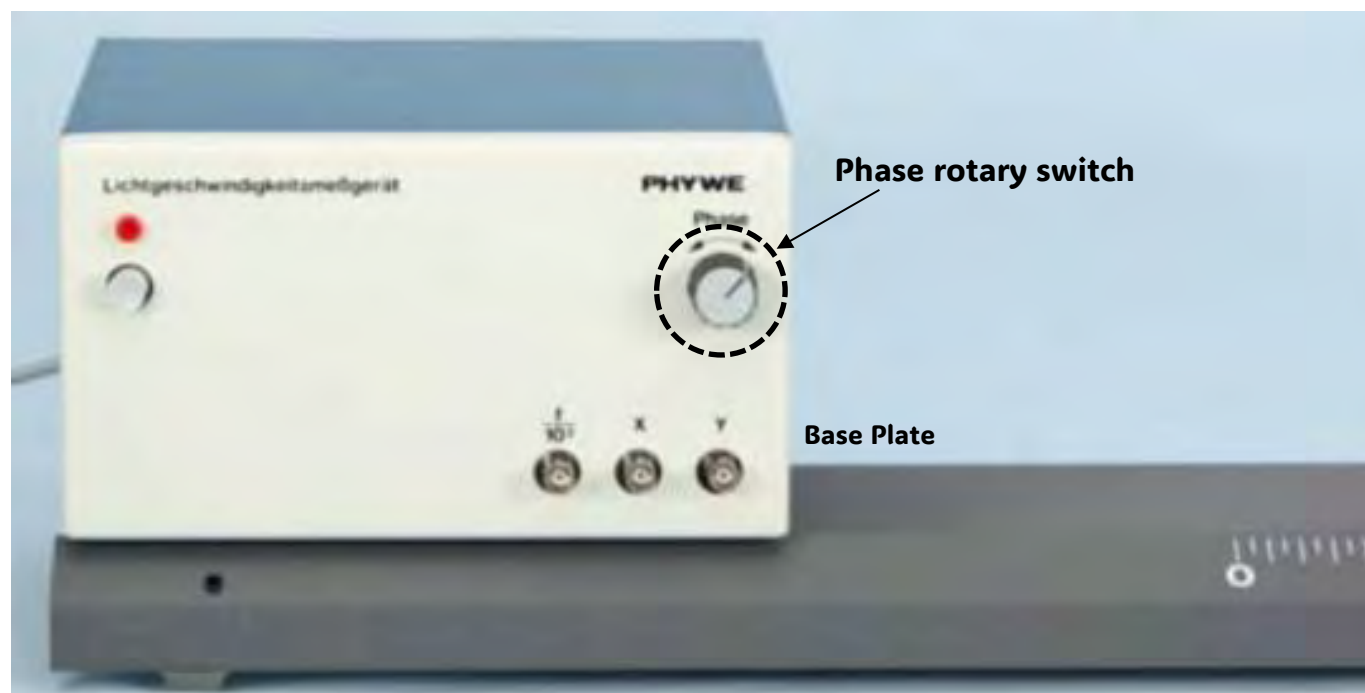
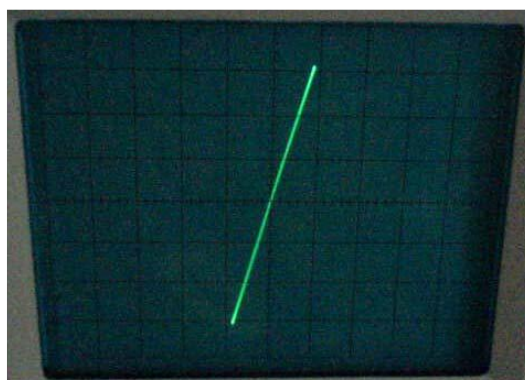

Fig. 1
Fig. 14
→ The control unit is shown in *fig. 1* and already discussed above. The control unit is already placed in the proper position (left side of the base plate next to the scaling) as shown in the figure.
- Turn the "Phase" rotary switch (*Fig. 1*) of the operating unit to the right until you see a straight line (*Fig. 14*). Note this position of the mirror as x_1 .